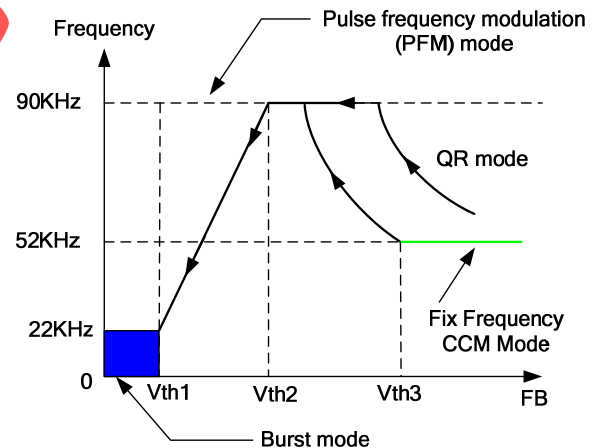

Figure 1
■ At full load conditions ( $FB > V_{th3}$ , Figure 1), there are two situations: firstly, if the system input is in low line input range, the IC operates in fix frequency (52KHz @  $R_I = 20K \text{ Ohm}$ ) CCM mode. Thus, small size transformer can be used with high power conversion efficiency. Secondly, if the system input is in high line input range, the IC operates in QR mode. In this way, high power conversion efficiency can be achieved in the universal input range when system is at full loading conditions.
■ At normal operating conditions ( $V_{th2} < V_{FB} < V_{th3}$ , Figure 1), the system operates in QR mode. The frequency varies depending on the line voltage and the load conditions. Therefore, the system may actually work in DCM when 90KHz frequency clamping is reached.
■ At light load conditions ( $V_{th1} < V_{FB} < V_{th2}$ , Figure 1), the system operates in PFM (pulse frequency